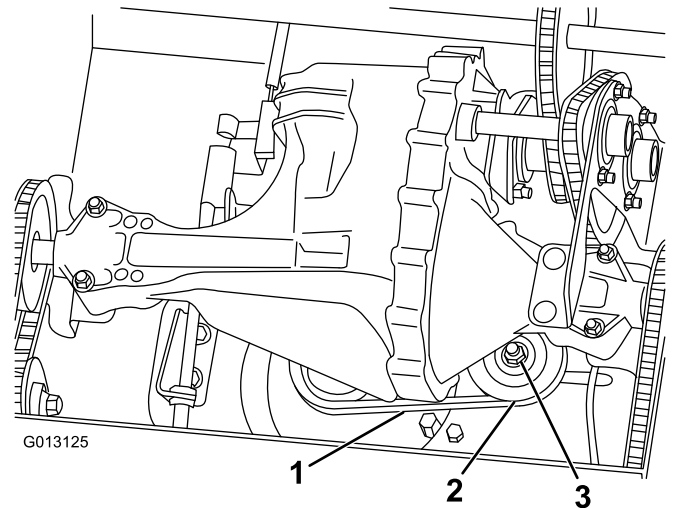

Figure 33
3. Push on a span of the drive belt with 9 kg (20 pounds) of force (Figure 33). If the belt flexes more than 3 mm (1/8 inch), tighten it as follows:
- A. Loosen the nut securing the idler pulley (Figure 33).